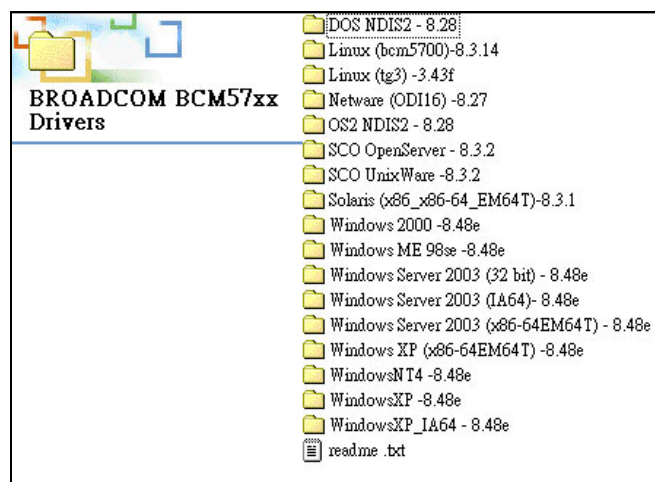

Figure 6-18: Location Browsing Window
Step 8: Select the proper OS folder under the “X:\I3-LAN\BROADCOM BCM57xx Drivers” directory (Figure 6-18) in the location browsing window, where “X:\” is the system CD drive.
- Step 8:** Select "X:\4-AUDIO\AC-KIT883HDI\WIN" directory in the location browsing window, where "X:\1" is the system CD drive (**Figure 6-18**).